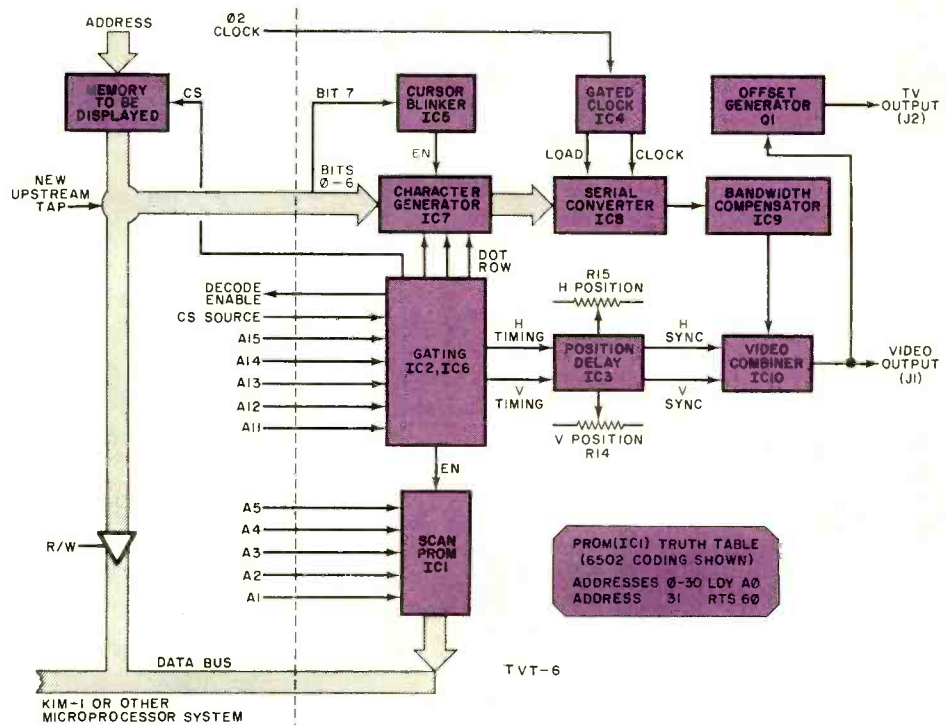
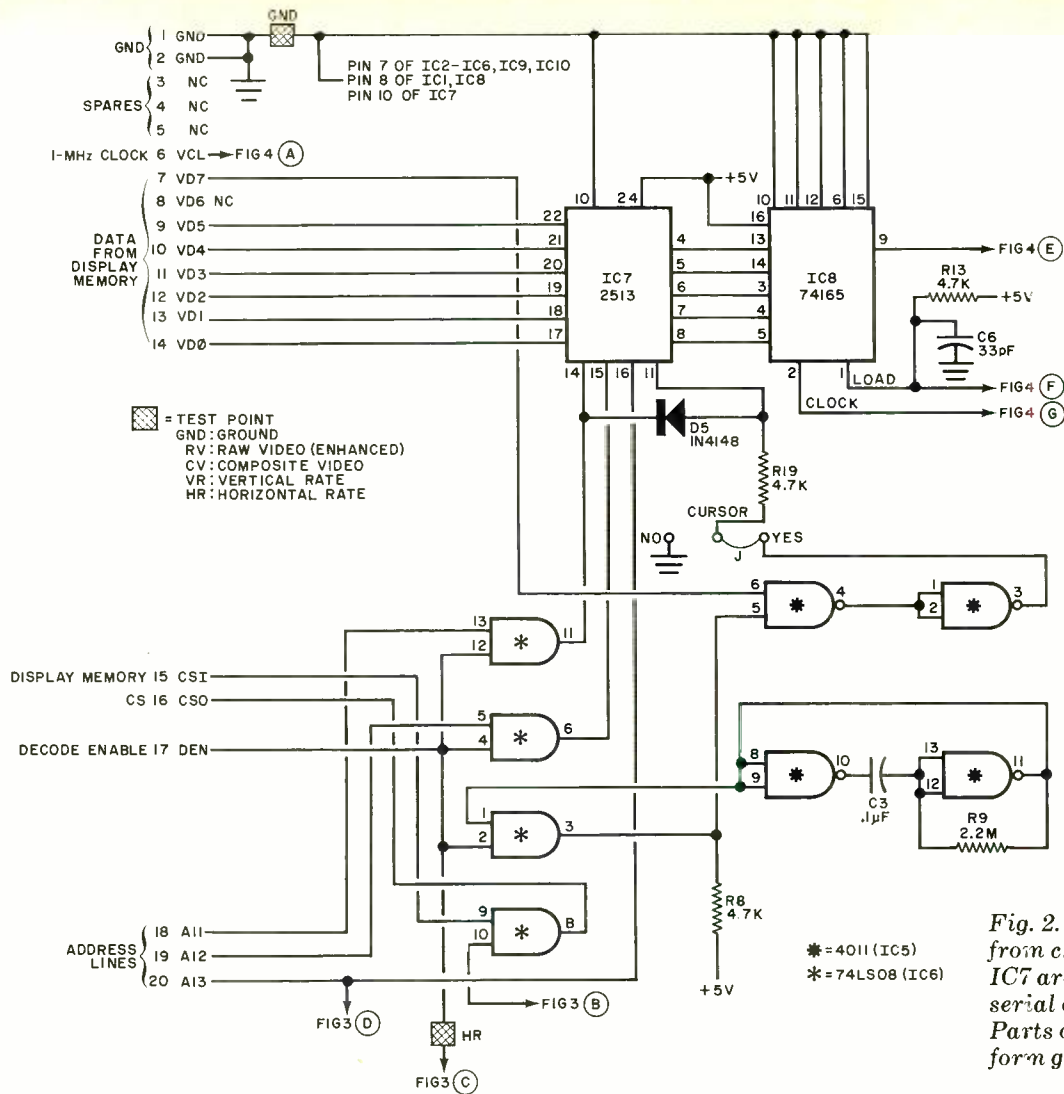

Fig. 1. TVT-6 block diagram and truth table for the PROM.
Fig. 2. Parallel outputs from character generator IC7 are converted into serial data in IC8. Parts of IC5 and IC6 form gating circuits.
**Circuit Operation.** A block diagram of the TVT-6, as used with the KIM-1 system, is shown in Fig. 1. The complete schematic diagram of the video system is shown in Figs. 2 through 4.
As shown in Fig. 1, bits 0 through 6 from the "upstream tap" on the KIM display memory drive character generator IC7 whose blanking and formatting are helped along by the AND gates in IC6. The cursor bit (bit 7) is stripped off the upstream tap and routed to cursor blinker IC5, which introduces a blinking cursor into the character generator's enable input.